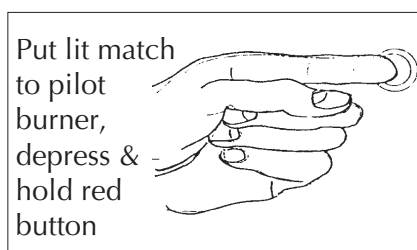
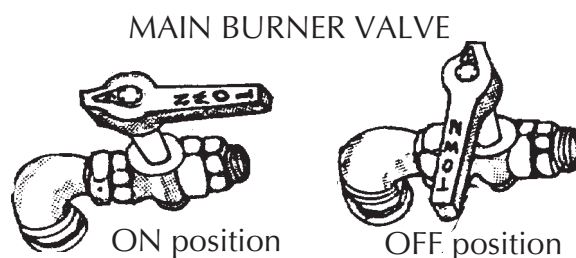

figure 1
figure 2
- b) Main burner valve shall be in OFF position (figure 2). Place a burning match by the pilot burner in the combustion chamber of the range. Depress safety control red button on (fig.1 below) and light pilot.